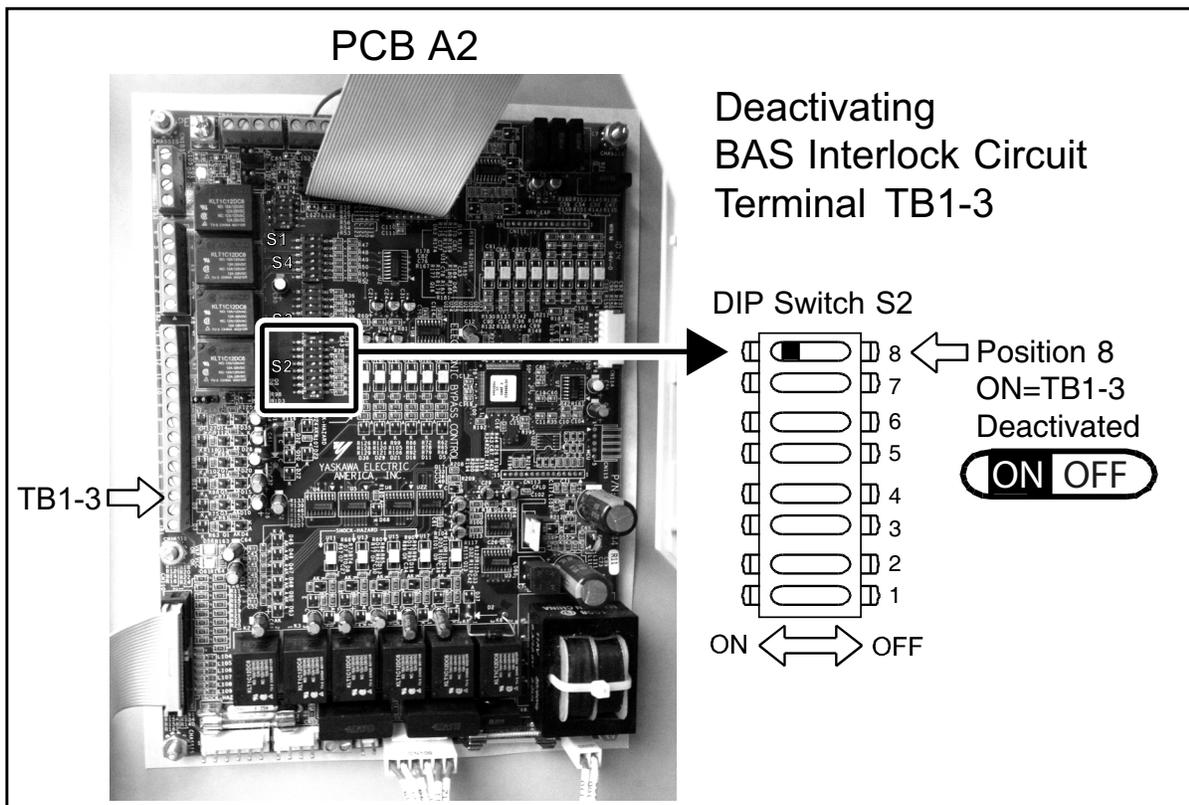

Figure 8 Option 3: Deactivating the Damper/BAS Interlock with DIP Switch S2-8
3. Option 3: De-activate terminal TB1-3 by moving DIP switch S2-8 to the ON position (toward the enclosure door). Refer to Figure 8. This solution is only suggested if a BAS Interlock Circuit will never be applied to the drive system.